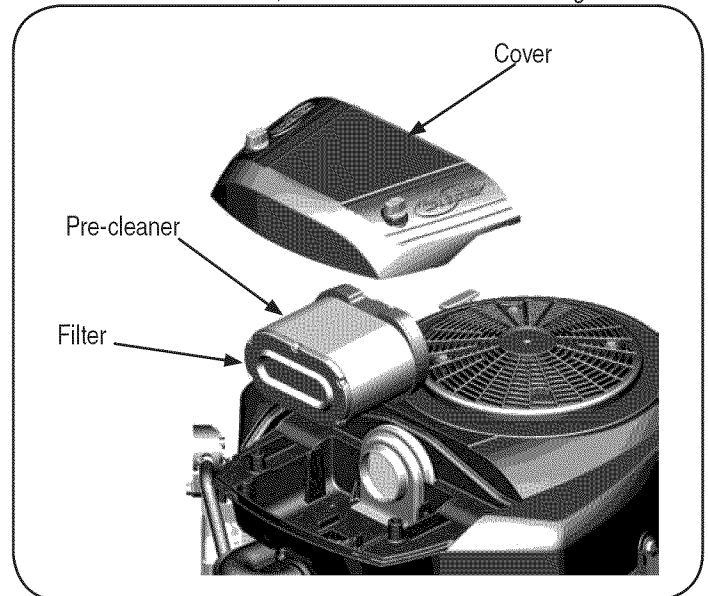

Figure 10
2. To remove the air filter, lift the end of the filter. See Figure 10.